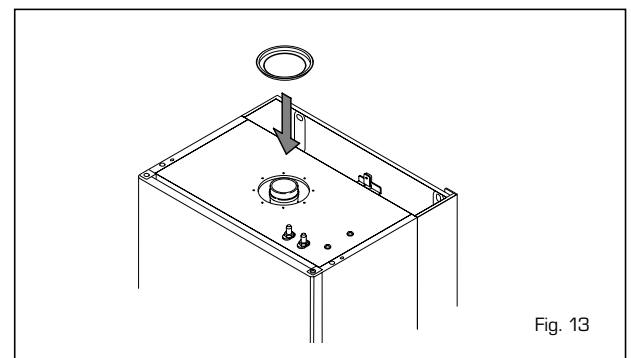

Fig. 13
building, its minimum diameter should be sufficient to allow the insertion of the wall liner (130 mm - 5 1/4 in diameter) which will be sealed with mortar. Refer to fig. 13. [The wall liner is available as an optional extra].
A diaphragm is normally supplied together with boiler version "Super 105 Mk.II". See fig. 13 for positioning.
- Fit the rubber sealing ring into the swaged groove in the air duct as shown in fig. 13/a. Ensure that it is the correct
- Fit the rubber sealing ring into the swaged groove in the air duct as shown in fig. 13. Ensure that it is the correct way around.
- With reference to fig. 13, slide on the aluminium retention ring (D), check that the rubber sealing ring (E) is pulled up to the wall and that the duct assembly is horizontal, then secure the aluminium retention ring to the air duct using the two screws (H) provided. Do not over-tighten the screws.
- Push the junction collar (B) over the air duct until the air duct touches the inner part of the collar where the diameter becomes smaller.
- Fit the protective metal collar (I) over the junction collar.
- Place the gasket (G) under the flange of the elbow and fit the elbow onto the top of the appliance, taking care to ensure that the silicon seal on the fan outlet correctly engages and forms a seal at its joint with the elbow. This must be checked from inside the sealed chamber.